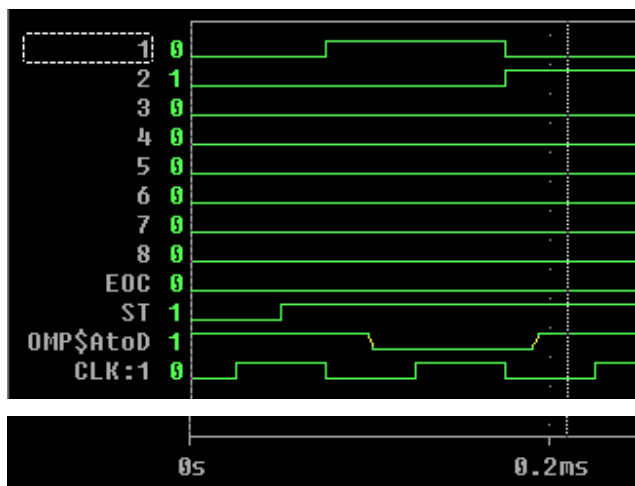

Figure 3.5: After the second CLK pulse the MSB went to Zero level as the comparator output was Zero. At the vertical line after 0.2ms the next bit is one.
During the next clock pulse as the one in the first bit of the shift register is shifted to the next bit, AND gate (2) either removes or leaves the one in the MSB depending on the comparator output that appears at the output of gate (1) and the Next MSB is set to ONE state which can also be left as one or reset to zero depending on the comparator output as shown in figure 3.5 below.